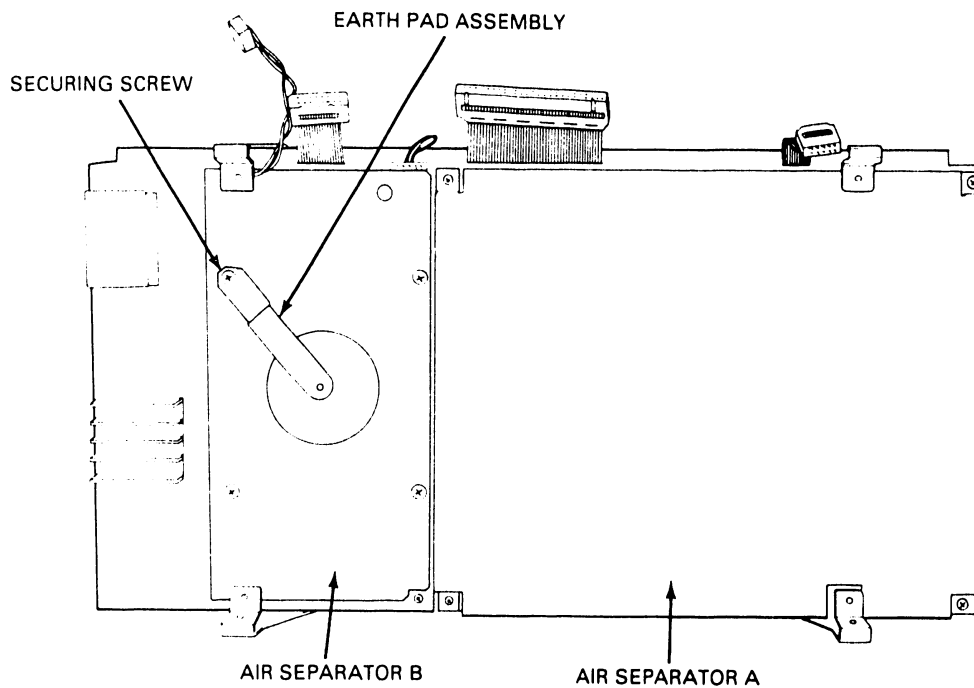

Figure 4-3 D2246 Air Separators
4. Remove the four screws that secure the larger air separator (air separator A) to the drive unit (see Figure 4-3).
4. Remove the screw that attaches the earth pad assembly to the smaller air separator (air separator B — see Figure 4-3).